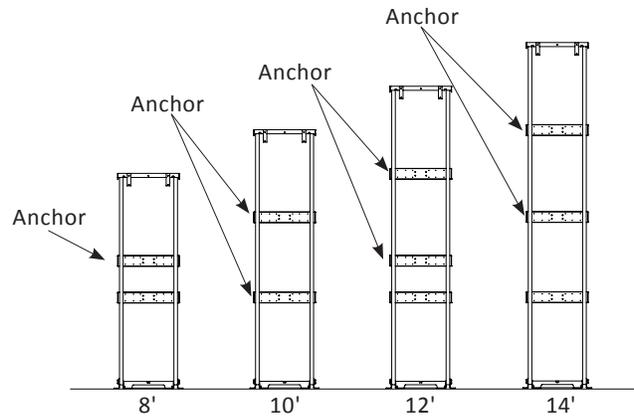

Figure 4-13
1. 8' models must have the lift tower anchored into a solid surface at or above the top cross-brace of the tower frame. 10' or taller models must have the lift tower anchored at two (2) levels into a solid surface at or above the top two (2) tower cross braces. This is to ensure running clearances remain constant. There are two options for anchoring the top of the tower.
*See Figure 4-13.*